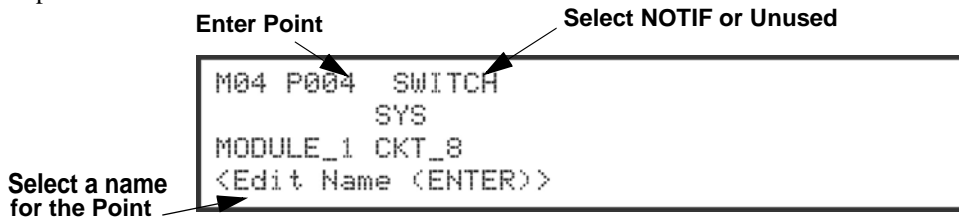

Figure 9-7 Programming Points Screen for the ECS-AMP Module
12. Press the up or down arrow key to select the desired function. (See Figure 9-7 on page 20), then press ENTER.